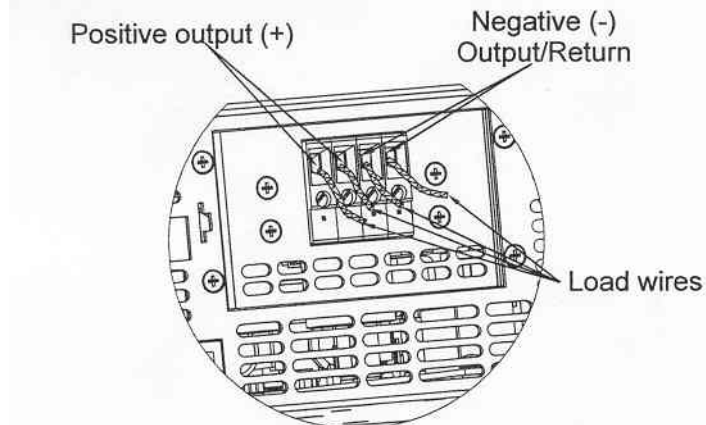

Fig.3-8: Load wires connection to the output connector
3. Insert the stripped wires into the terminal and tighten the terminal screw securely (see Fig.3-8)